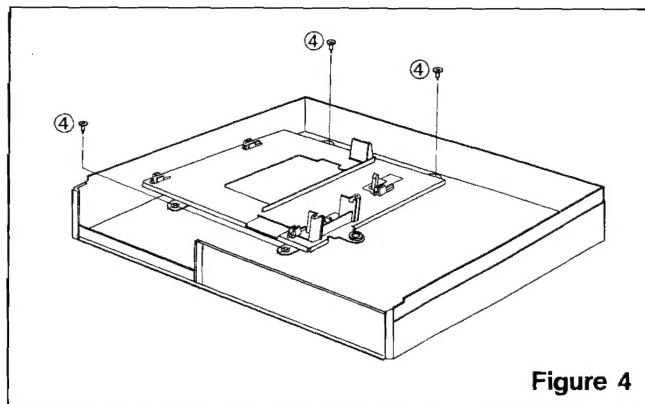

Figure 4
4. To Remove the Mechanism (Figure 4)